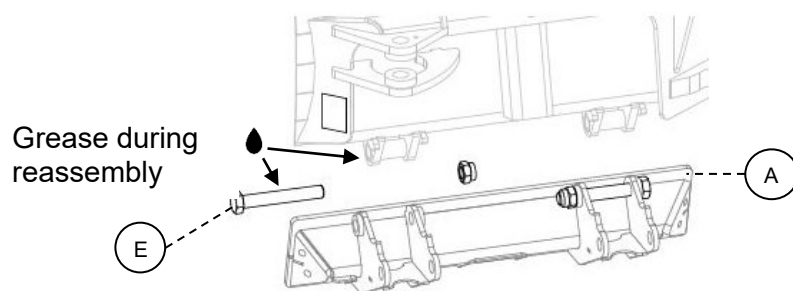

Figure 29
It is important to check the steel holder (A) and its screws (E). If these are damaged, they should be replaced; when this happens, they need to be lubricated (see Figure 29).